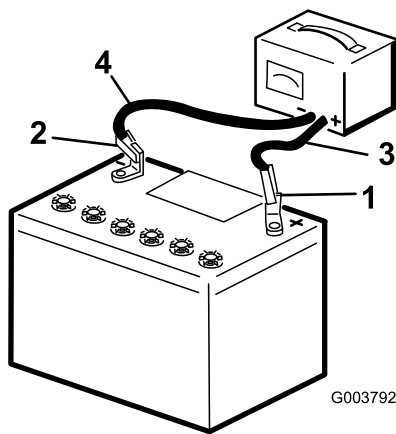

Figure 57
2. Charge the battery for 4 to 8 hours at a rate of 3 to 4 A (Figure 57). Do not overcharge the battery.
- When the battery is fully charged, unplug the charger from the electrical outlet, then disconnect the charger leads from the battery posts (Figure 57).